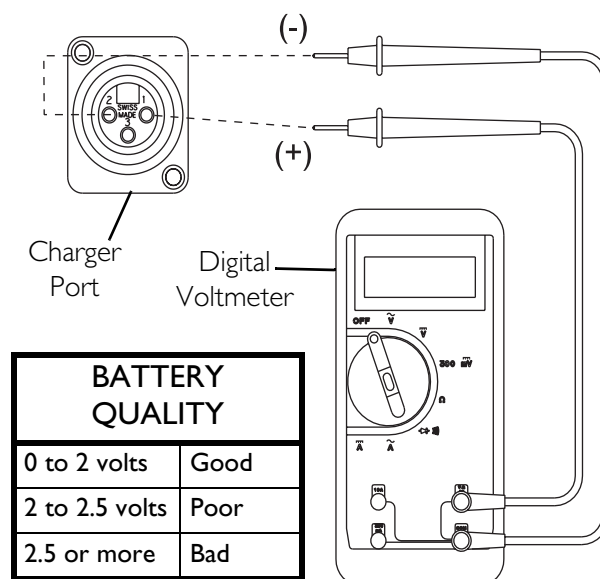

FIGURE 3.1 Field Load Test
NOTE: For this procedure, refer to FIGURE 3.1.
4. Connect the voltmeter leads to the charger port on the wheelchair as shown in FIGURE 3.1. Most digital voltmeters are not affected by polarity, however, analog meters (meters with swinging needles) can be and should be used carefully. A good meter reading should be 25.5 to 26 VDC.